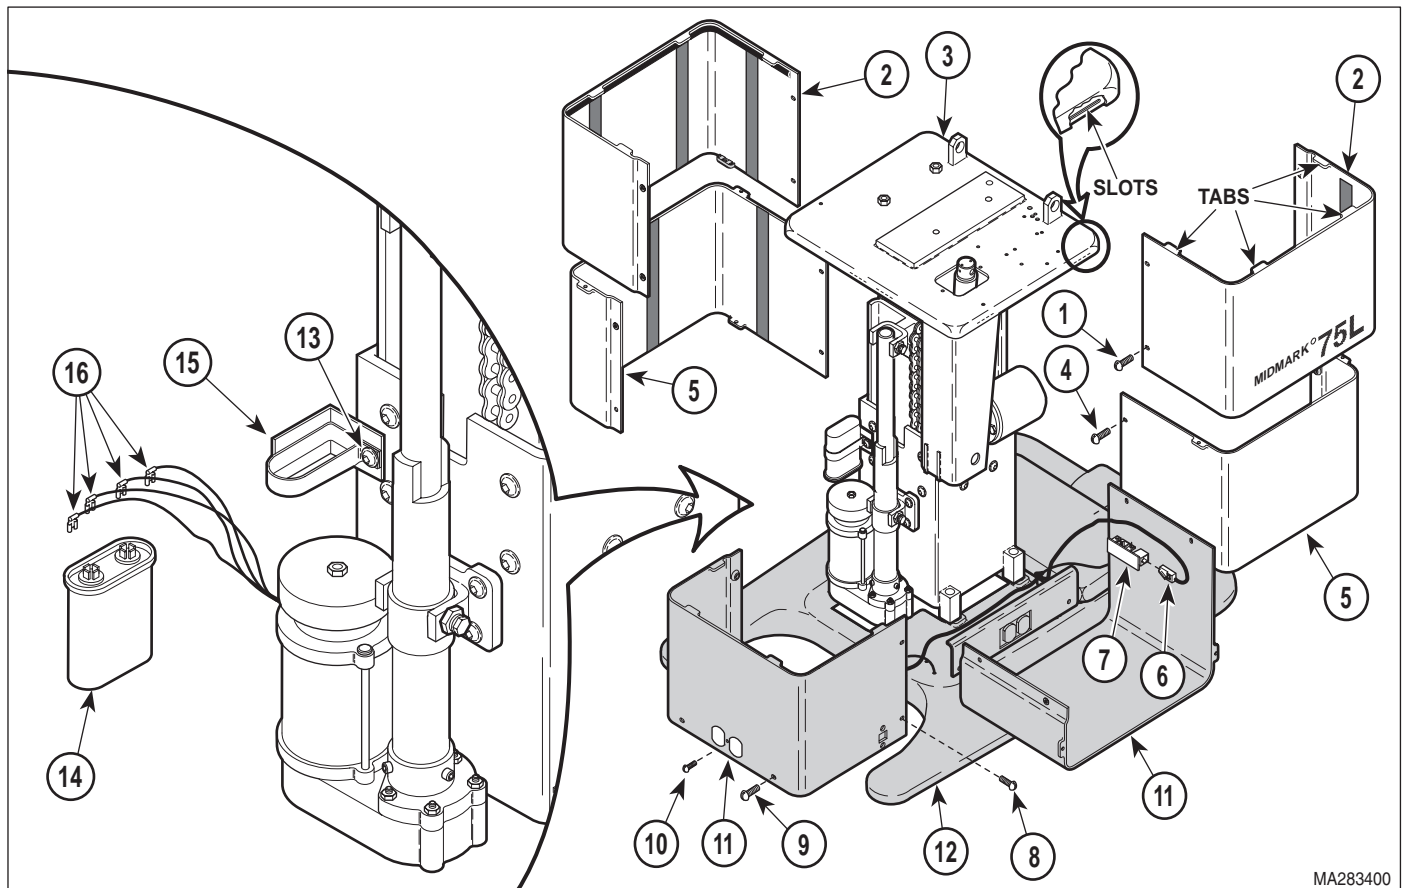

Figure 4-16. Base Capacitor Removal / Installation
- (3) Remove four screws (1, Figure 4-16) and R.H. and L.H. outer shrouds (2) from column adapter weldment (3).
- (4) Remove four screws (4) and R.H. and L.H. middle shrouds (5).
- (5) Disconnect two modular cords (6) from inlet PC boards (7).
- (6) Remove four screws (8), four screws (9), two screws (10), and partially remove R.H. and L.H. inner shrouds (11) from base casting (12).
- (7) Loosen screw (13).
- (8) Push base capacitor (14) out of capacitor strap (15).